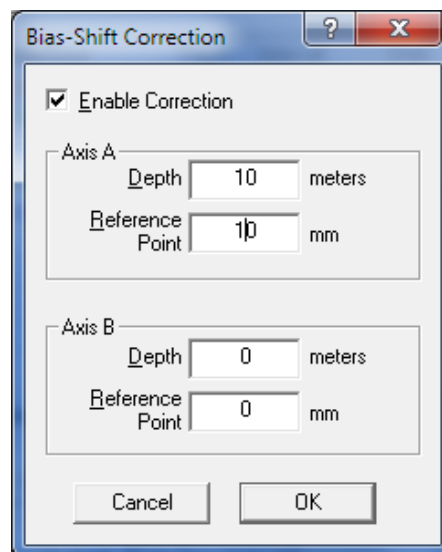

FIGURE 8-28 BIAS SHIFT PROPERTIES
- 5 Enter the **Depth** and the **Reference Point** for the bias-shift correction (Figure 8-28). The **Reference Point** is the location on the graph that you would like that data to pass through. Inclinalysis™ will automatically adjust the rest of the data points in order to correspond with the plot passing through this reference point. This example makes the A-axis plot for the file BH2_2.csv pass through 10 mm at a depth of 10 metres. Press **OK** when complete.